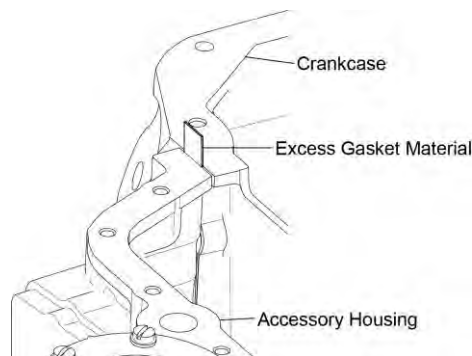

Figure 10
- C. Remove (cut away) any excess accessory housing gasket material that extends to the oil sump mounting surface. Excess gasket material must not extend between the accessory housing and crankcase. The gasket must be flush with the oil sump flange (Figure 10).